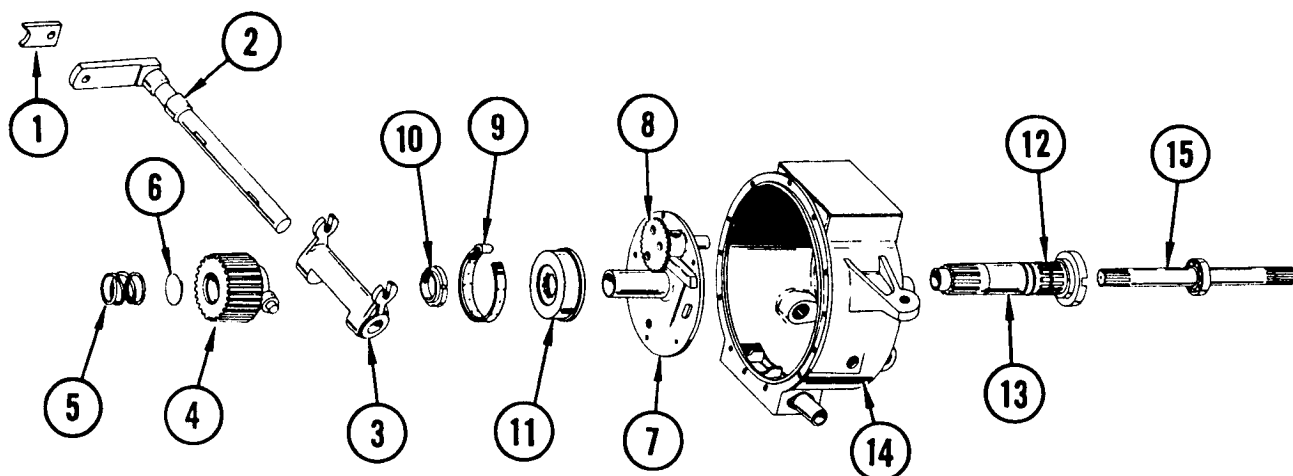

FIGURE 59. EXPLODED VIEW OF CLUTCH HOUSING ASSEMBLY
Figure 59 shows an exploded view of clutch housing assembly.
Remove compression spring (5) by expanding spring enough to slip over splines of clutch shaft. Remove retaining ring (6), Figure 59.